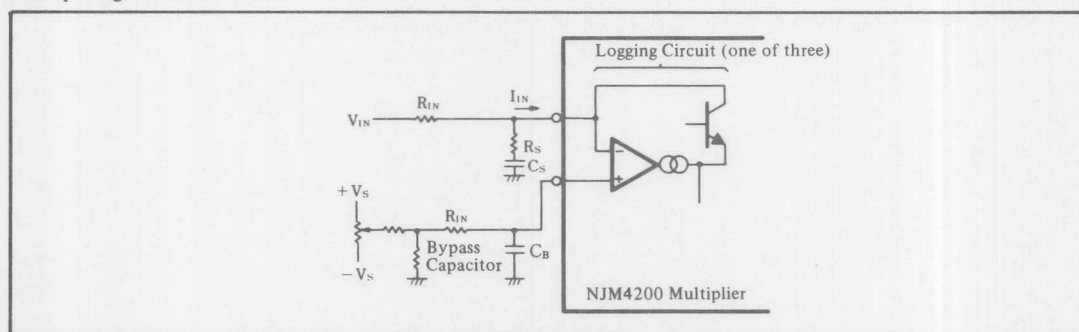

Figure 7. Optional Frequency Stability Components  $R_S, C_S$  and  $C_B$
1. Connect a series  $R_S C_S$  from input summing junction to ground as shown in Figure 7. This network has the effect of attenuating the feedback at high frequencies and thereby stabilizing the op amp. Loop gain at high frequencies is sacrificed, but this is seldom of concern in dividing or square-rooting applications. Recommended values are  $10\text{k}\Omega$  for  $R_S$  and  $0.005\mu\text{F}$  for  $C_S$ .
2. The resistor on the noninverting input can be bypassed as shown in Figure 7. This helps to reduce noise.